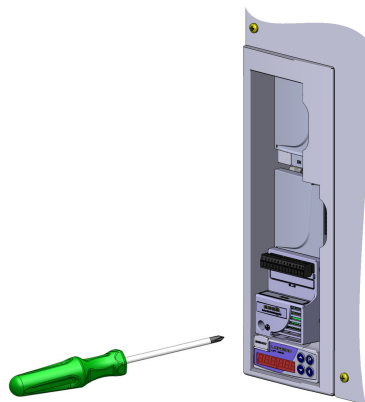

Figure 2: Fastening of the accessory grounding screw
3. Connect the accessory to slot and fasten the grounding screw of the accessory to the frequency inverter, as shown in Figure 2.